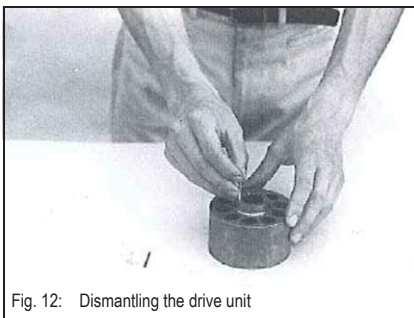

Fig. 12: Dismantling the drive unit
- ✎ Insert the pins into the cylinder housing on the opposite side, see Fig. 12 and place the centring mechanism on it